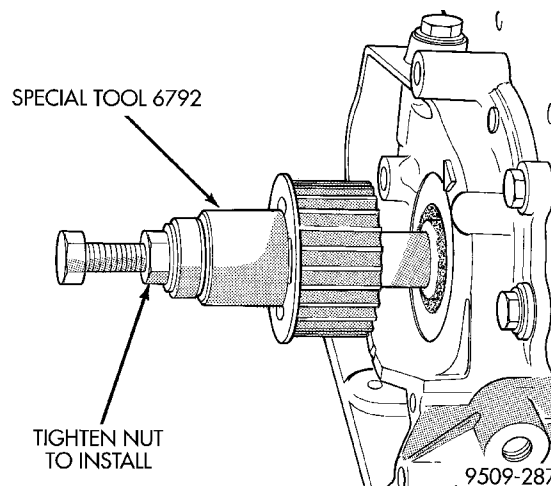

Fig. 77 Crankshaft Sprocket—Installation
(7) Install crankshaft sprocket, using Special Tool 6792 (Fig. 77).
(8) Install oil pump pick-up tube and oil pan.